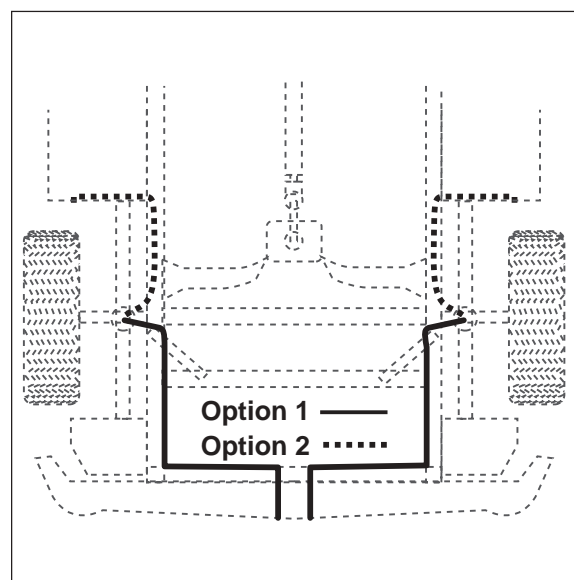

Figure 8
- L. Drill a 5/16" hole for inflation valve and mount as in illustration (Figure 8). Rubber washer is for outside weather seal.
H. Drill 5/16" hole for inflating valves and mount as illustrated. Rubber washer is for outside weather seal (Figure 8).